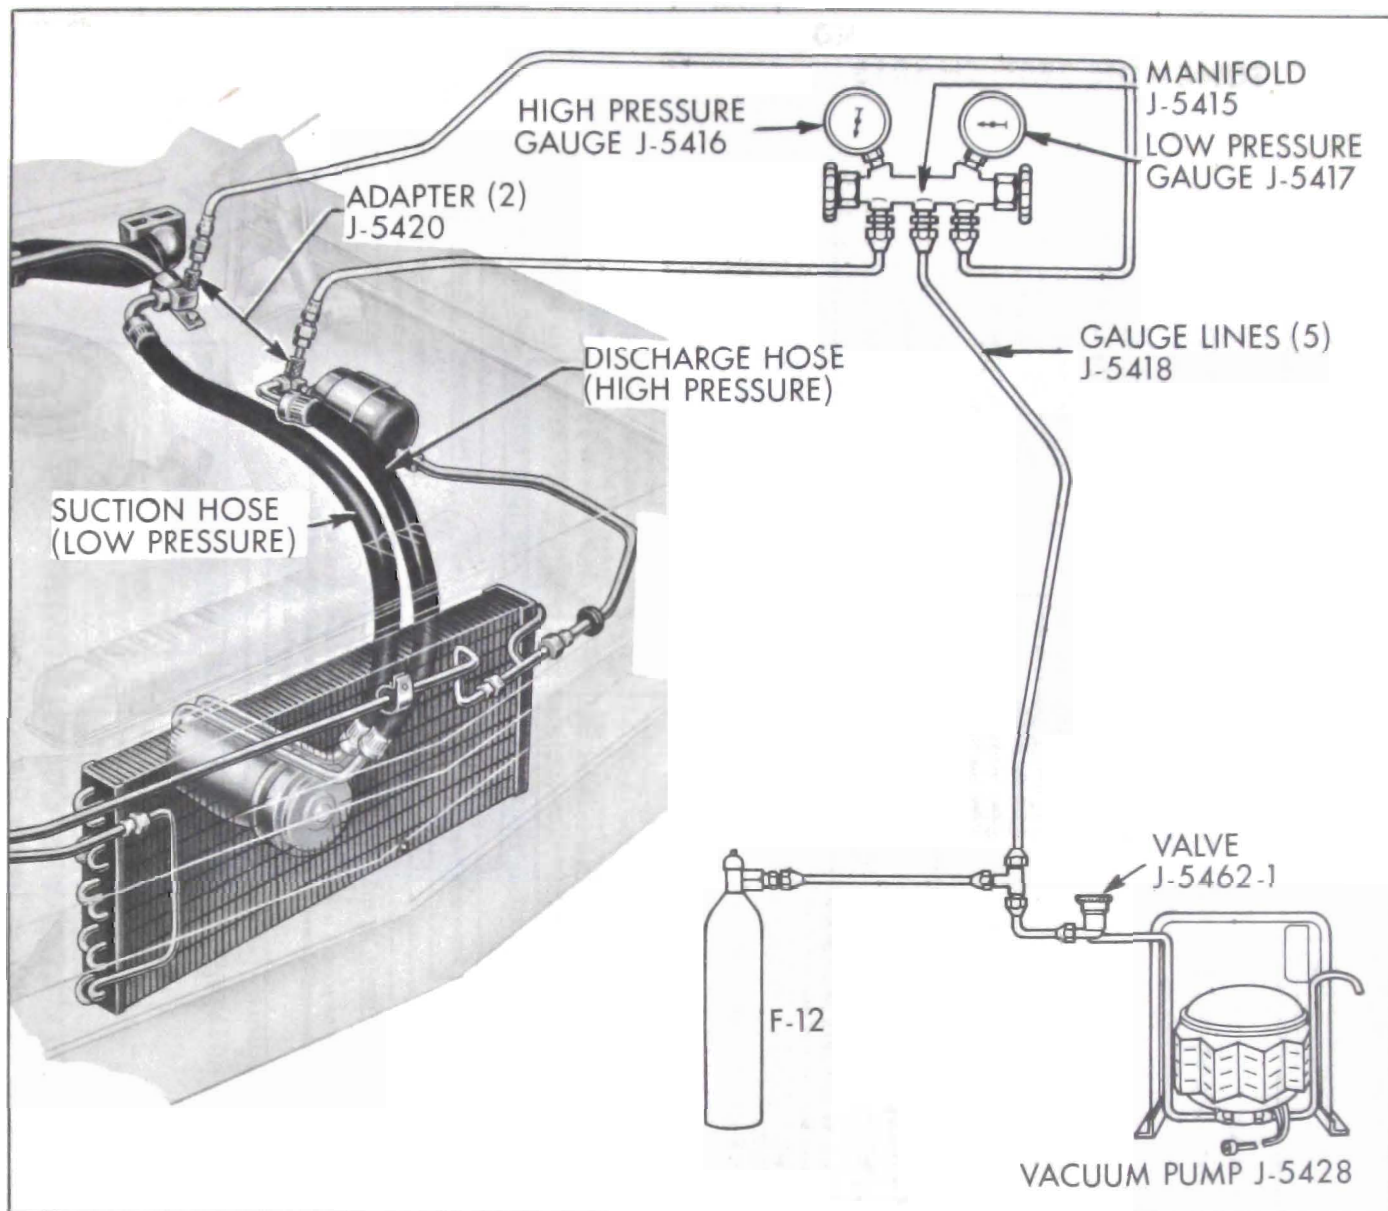

Figure 11-31—Air Conditioner Service Hook-Up
1. Attach gauge lines, adapters and vacuum pump set-up as shown in Figure 11-31 and discharge any refrigerant that may be in system.
cylinder and gauge set connected to the compressor as shown in Figure 11-31, place the cylinder in a bucket of hot water which does not exceed 125°F.
3. Gage set connected as shown in Figure 11-31.